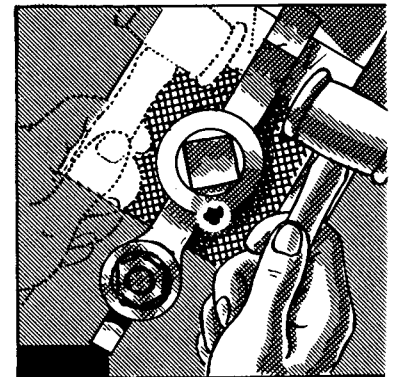

FIG. 389
14. Loosen the cross rail and raise the table if there is too much space between the bottom of the tool and the top of the work. Be sure that the cross rail is clamped and the table is properly supported after the height of the table has been adjusted (Fig. 389). (Refer also to page 77, How to Adjust the Cross Rail.)
16. Adjust the tool holder by loosening the tool-post screw slightly and tapping the tool holder to the right or to the left until the cutting edge of the tool is parallel with the scribed line on the work (Fig. 389).